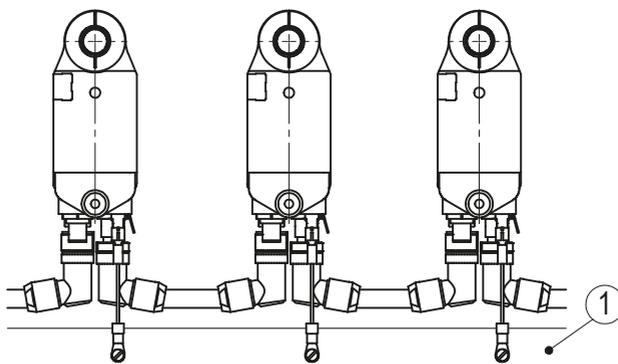
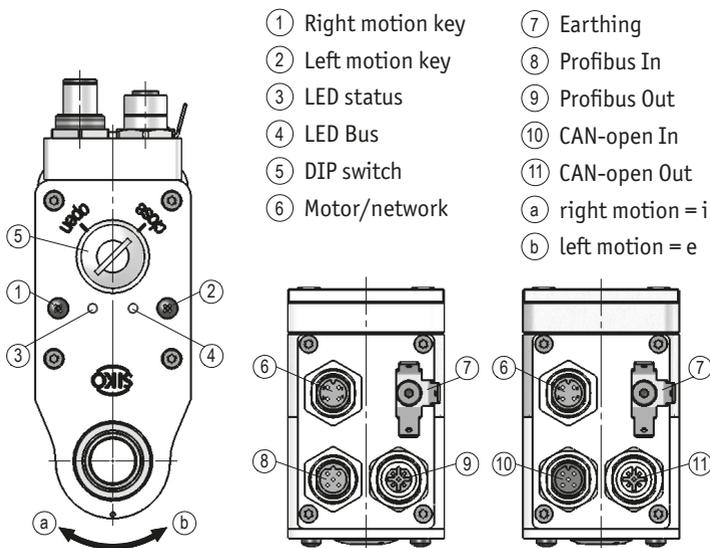
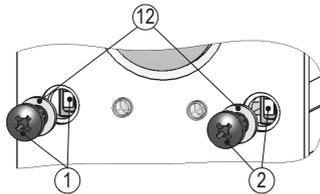

Fig. 5: Ground bar
Fig. 10: Encoder absolute
Fig. 11: Inching buttons
For protection against interference, the screens of the signal lines and the power line must be connected on both sides. Potential differences cause inadmissible currents on the screen. Apply the PE connection ① to the protective conductor potential below the connecting plugs (see Fig. 10). Use 6,3 mm flat connectors with short strands 2,5 mm² ... 4 mm² (not in the scope of delivery). For multiple actuators we recommend connecting the earthing to a ground bar ① (see Fig. 5).
Actuator failure (Fig. 11)
Access to inching buttons (Fig. 10 + Fig. 11)
Access to DIP switch address setting (Fig. 10 + Fig. 12)